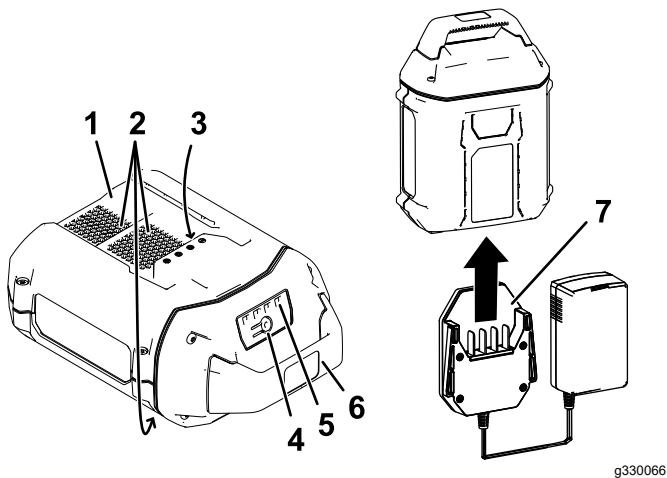

Figure 12
2. Line up the charger with the cavity on the back of the battery pack (Figure 12).
3. Slide the charger into the battery pack until it is fully seated (Figure 12).